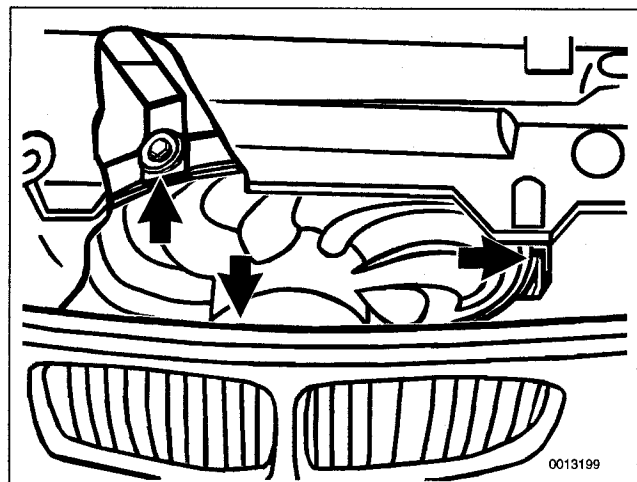

Fig. 12. Version 1 auxiliary fan mounting screws (arrows).
2. Remove fan mounting screws. See Fig. 12.